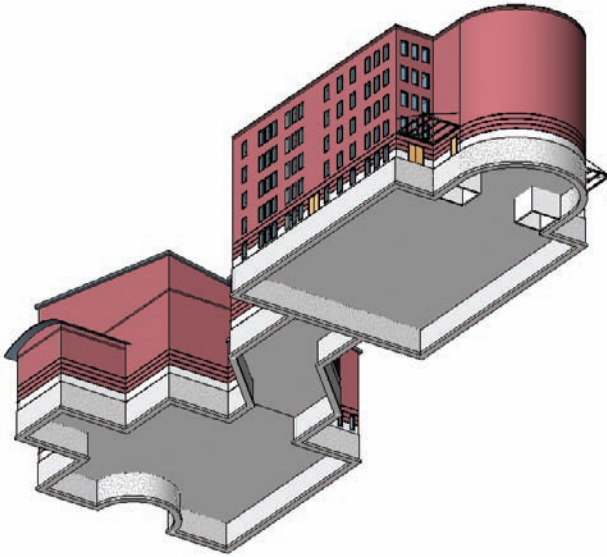

FIGURE 8.58 Doing a 3D investigation to see whether the footings are all in place
8. When you are done picking the walls, go to a 3D view to make sure you have all of the foundations covered, as shown in Figure 8.58.